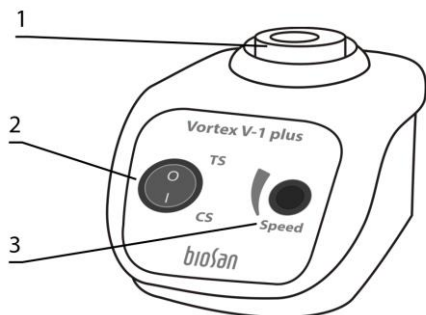

Figure 1. V-1 plus, front view
5.1.2. Gently holding a tube by its upper part, press the lower part to the vortex head (fig. 1/1). During rotation of the rotor, control the intensity of shaking by varying applied pressure.
5.1.3.1 Turn the **TS/CS** switch (fig. 1/2) to position **CS**.
5.1.3.2 Set the required speed by turning the **Speed** knob (fig. 1/3).
5.1.4.1 Turn the **TS/CS** switch (fig. 1/2) to position **TS**.
5.1.4.2 Set the required speed by turning the **Speed** knob (fig. 1/3).
5.1.4.3 Push the tube on the vortex head (fig. 1/1) and hold for vortexing. Rotor stops when the tube is raised.
5.2.4.1 Turn the **QS/CS** switch (fig. 1/4) to position **CS**.
5.2.4.2 Set the required speed by turning the **Speed** knob (fig. 1/6).
5.2.5.1 Turn the **QS/CS** switch (fig. 1/4) to position **QS**.
5.2.5.2 Set the required speed by turning the **Speed** knob (fig. 1/6).
5.2.5.3 Position the tube on the vortex head, press and hold **QS** button (fig. 1/5) for vortexing. Rotor stops when the button is released.